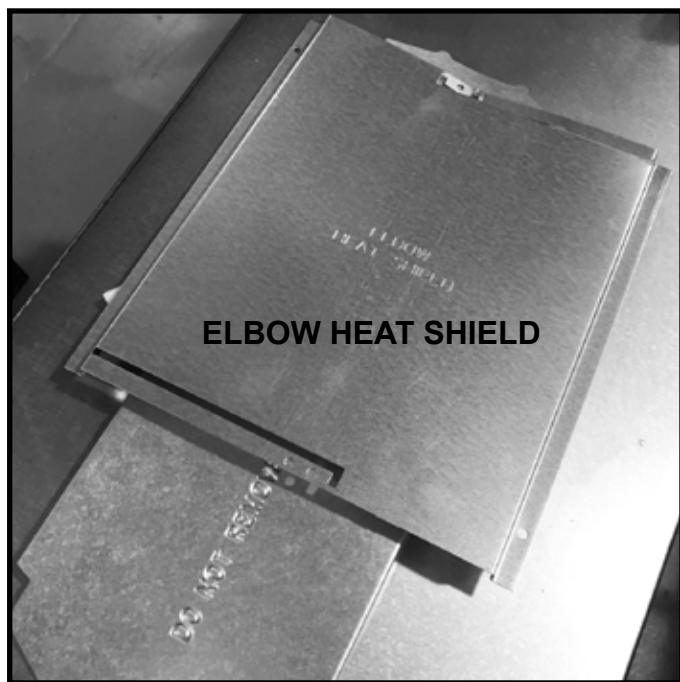

Figure 6.1 Elbow Heat Shield (Shown as Shipped)
1. Remove the elbow heat shield from the shipping position, shown in Figure 6.1, by removing screws.